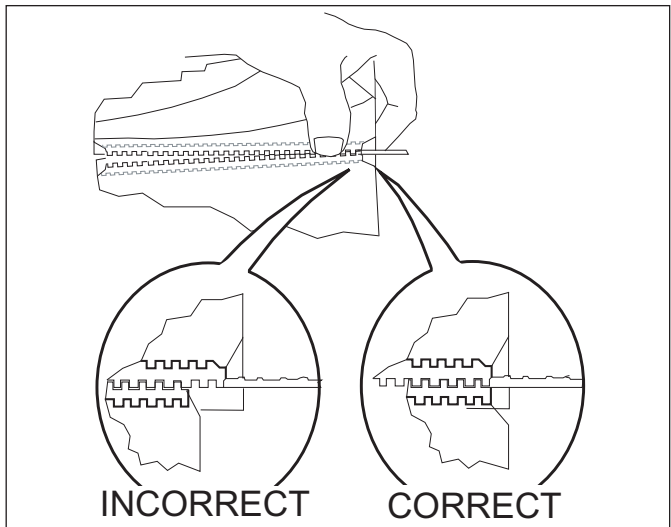

Figure 7. Aligning Belt Teeth
4. Remove the Belt Wraps and set aside (Figures 7 & 8).